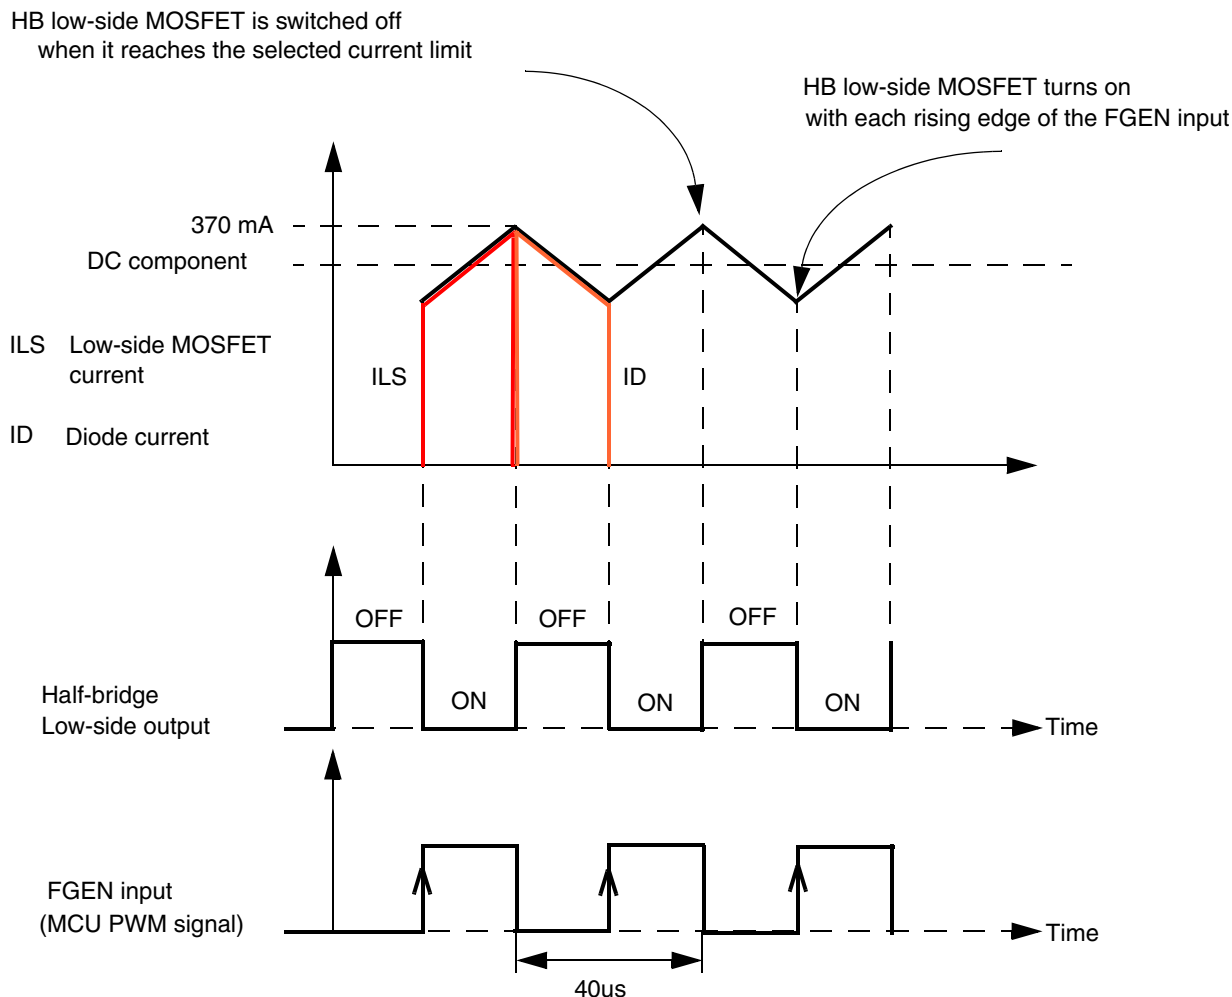

Figure 2-3. Low-Side MOSFET Switching on the MM908E625 to Drive the High-Brightness LEDs
When switching on the low-side MOSFET (Figure 2-3), current flows through the high-brightness LED and inductor (L). When it reaches the current limit previously defined inside the MM908E625, the MOSFET is turned off automatically. At this point, the energy stored in the inductor (L) continues to flow through the LED because of the Schottky diode (D). The idea is to maintain a constant flow of current through the high-brightness LED. Before the current drops to zero, the low-side MOSFET is turned on again to start a new current cycle.
Looking closely at the specifications of the device, there is a feature essential to this application. Each of the four half-bridge outputs has a programmable current limit mode of operation when the low-side MOSFETs are used in PWM mode. This limit is implemented by turning off the MOSFET on a cycle-by-cycle basis after it reaches the preset current limit (Figure 2-3). In this application, the low side MOSFET conduction is activated on the rising edge of a base clock provided by the MCU. The MOSFET is on until the current limit is reached, at which time the limit circuit terminates the current cycle, turning off the MOSFET. Driving only the LED in this mode would not work properly because the current limit would be reached quickly and the MOSFET would turn off. An inductor is used to limit the speed of current change in the circuit ( $di/dt$ ), effectively creating an efficient 4-channel buck switching current regulator.
Each of the MM908E625's four half-bridge outputs has a programmable current limit mode of operation when the low-side MOSFETs are used in PWM mode. This limit is implemented by turning off the MOSFET on a cycle-by-cycle basis after it reaches the pre-set current limit (Figure 2-3). In this application, the low-side MOSFET conduction is activated on the rising edge of a base clock provided by the MCU. The MOSFET is on until the current limit is reached, at which time the limit circuit terminates the current cycle, turning off the MOSFET. Driving only the LED in this mode does not work properly because the current limit is reached quickly and the MOSFET turns off. An inductor is used to limit the speed of current change in the circuit ( $di/dt$ ), effectively creating an efficient 4-channel buck switching current regulator.